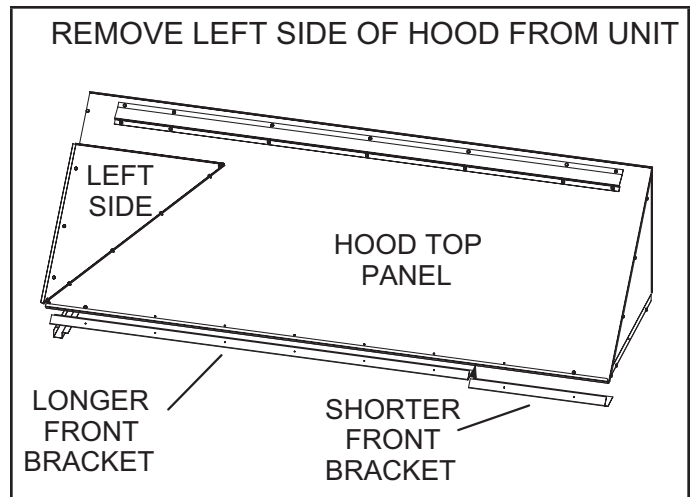
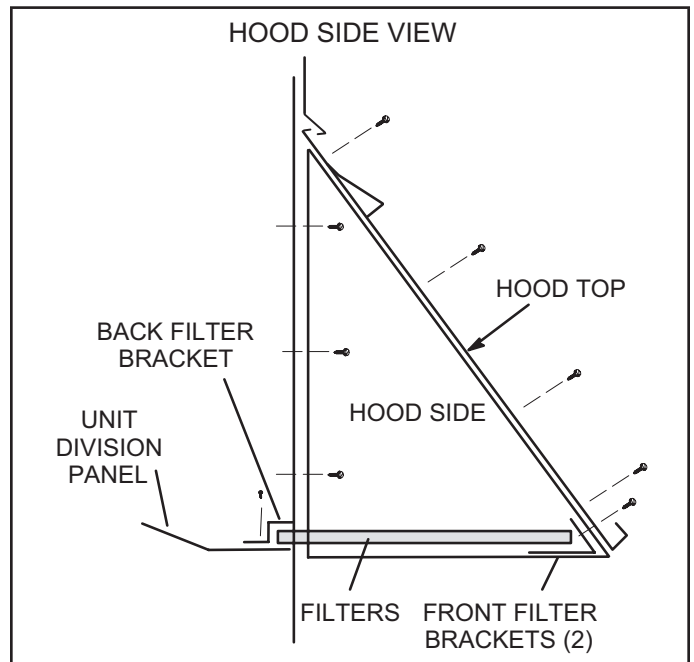

FIGURE 14
FIGURE 15
- 6 - Install back filter bracket on unit division panel as shown in FIGURE 15.
- 8 - Install longer front filter bracket on hood top as shown in FIGURE 14 and FIGURE 15. Insert four filters.